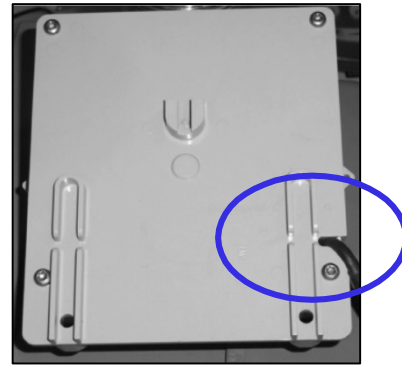

Figure 29: Attach ERT to backplate with Torx screws
- Carefully dress wires into the housing, and install the backplate on the Endpoint using the supplied T15 Torx screws as shown in Figure 29.